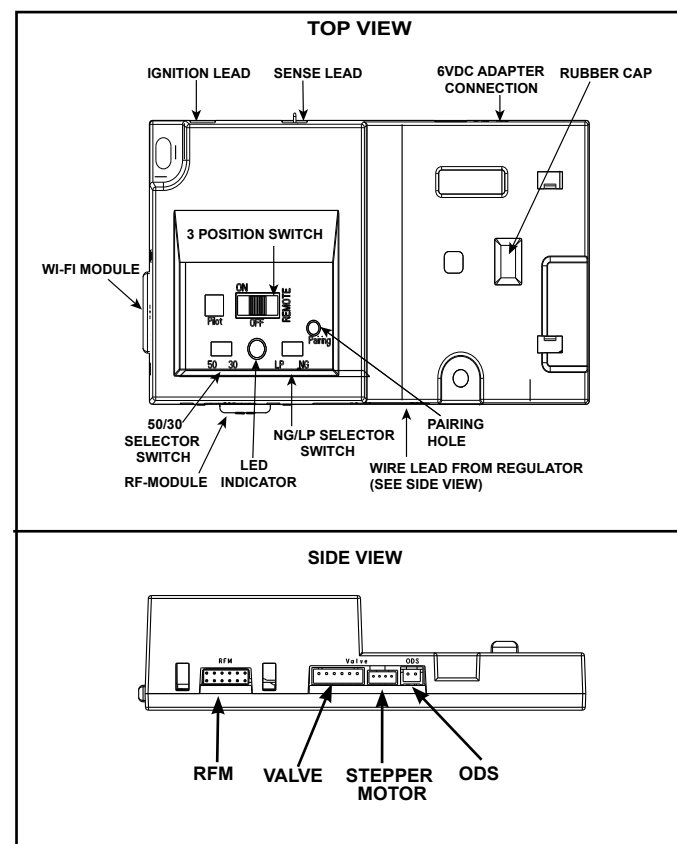

Figure 3.6 IFT-ECM 2.0
1. The Electronic Control Module (IFT2-ECM) has a three-position ON/OFF/REMOTE selector switch that must be set for proper operation. See Figure 3.6. When changing switch positions, it is important to pause in each position for 1-2 seconds.